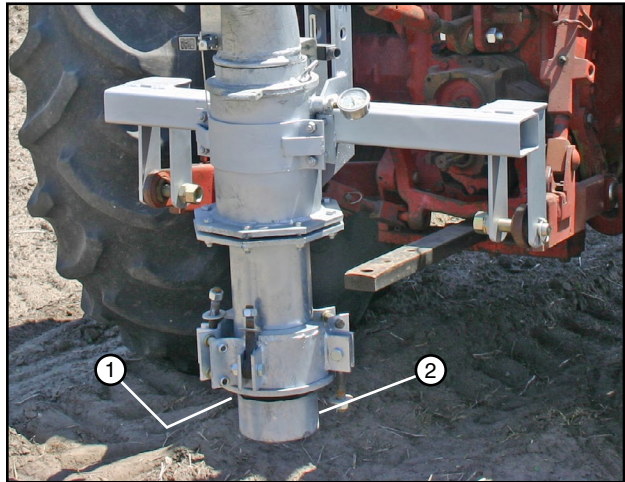

Figure 36-1 1. Seal
8. After reaching the next location make sure seal is on receiver tube. See figure 36-1.